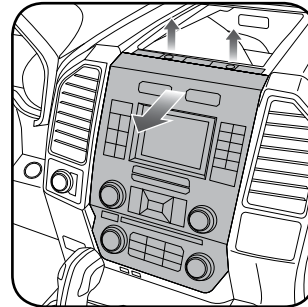

Fig. 2.0
2. Remove the (2) 7mm bolts from the top of the radio panel. Unclip the radio bezel, unplug its connectors, and remove the panel. (Fig. 2.0)